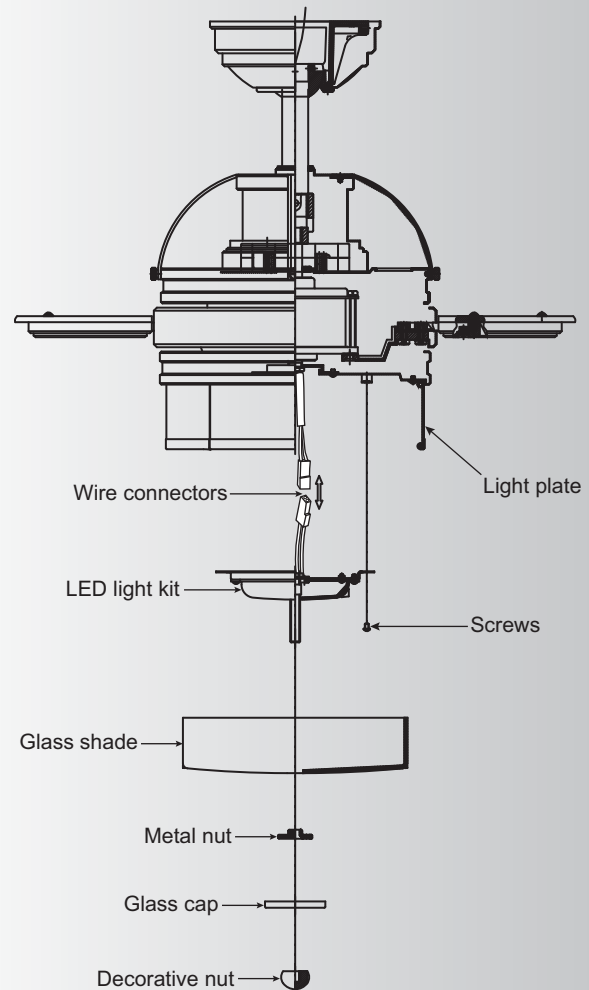

Fig. 17
Step 1. Loosen the three mounting screws on the inside of the LED light kit. (Fig.17)
Step 2. While holding the LED light kit under the fan motor, make the wire connections: (Fig. 17)
Step 3. Tuck the connections neatly into the light plate. Place the key holes on the LED light kit over the 2 screws previously loosened from the light plate, turn the LED light kit until it locks in place at the narrow section of the key holes. Secure by tightening all three screws. (Fig.17)
Step 4. Remove the decorative nut, glass cap and metal nut from the LED light kit. Place glass shade over the LED light kit stem, secure with the metal nut (rubber side on the top), glass cap and decorative nut. Do not overtighten. (Fig.17)
Step 5. Restore power and your light kit is ready for operation. (Fig. 17)